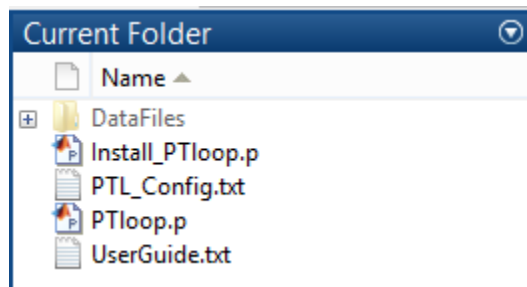

Figure 1.
4. Select the folder "PTloop" as current folder in MATLAB (the window "Current Folder" should look like Fig. 1).